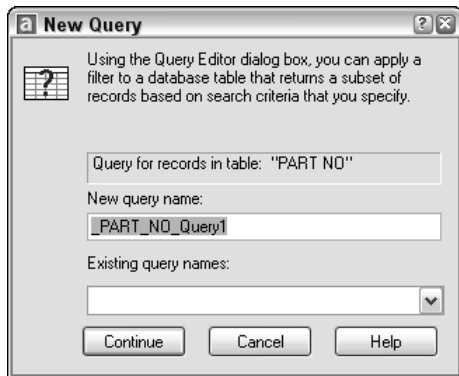

Figure 20-18: The New Query dialog box
3. In the New Query dialog box (shown in Figure 20-18), type a name for the new query or accept the name AutoCAD supplies. To base a query on an existing query, choose an existing query from the drop-down list. Click Continue.